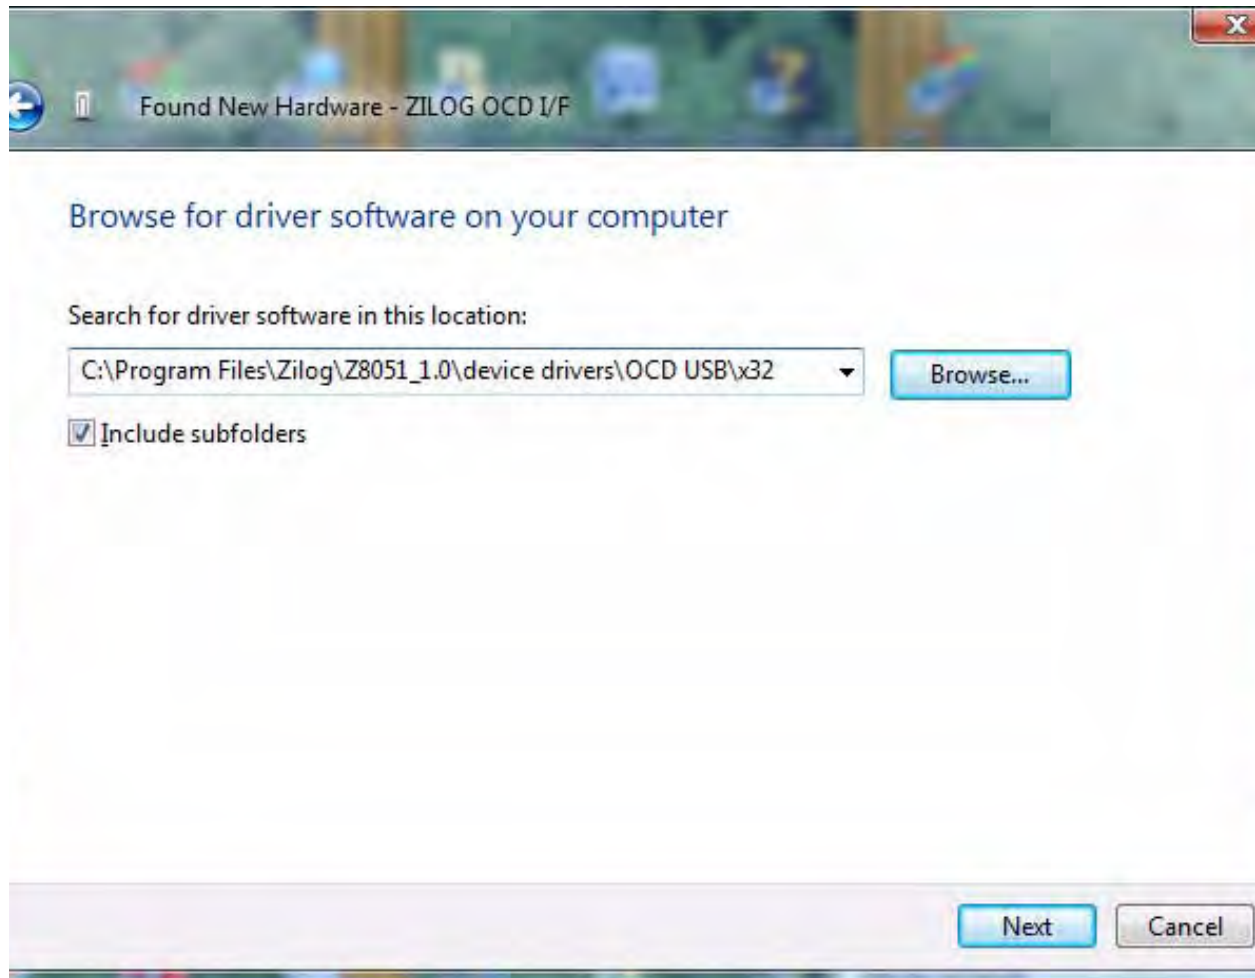

Figure 22. Browse For Driver Dialog, Windows Vista
5. Select **Browse my computer for driver software (advanced)** to display the dialog shown in Figure 22, which prompts you to key in or browse for the location of the .inf file. Depending on the type of computer you use (32-bit or 64-bit), use the **Browse** button to navigate to one of the following paths, then click the **Next** button.